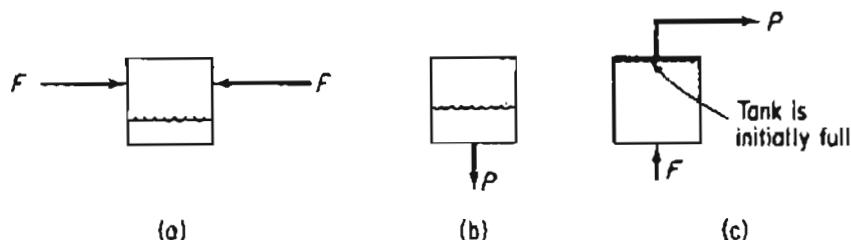

Figure P6.16
- *6.16 Examine the processes in Figure P6.16. Each box represents a system. For each, state whether: